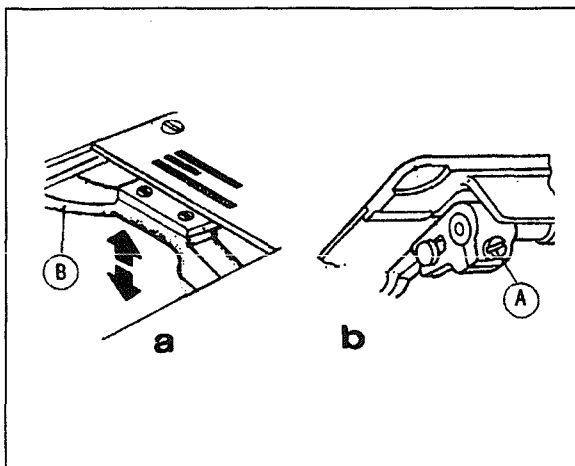

Fig. 23
## 18. ADJUST THE HEIGHT OF FEED DOG ( Fig.23,24 )
- 2) Loosen Screw ( A ) of feed lifting rock shaft crank ( See Fig.23,b )
- 3) Move Feed Bar ( B ) in the direction shown by the arrow in Fig. 23 ( a ) to adjust the height of the feed dog. The standard height of feed dog is that the top of feed dog is 1mm above Throat Plate Surface ( B ).